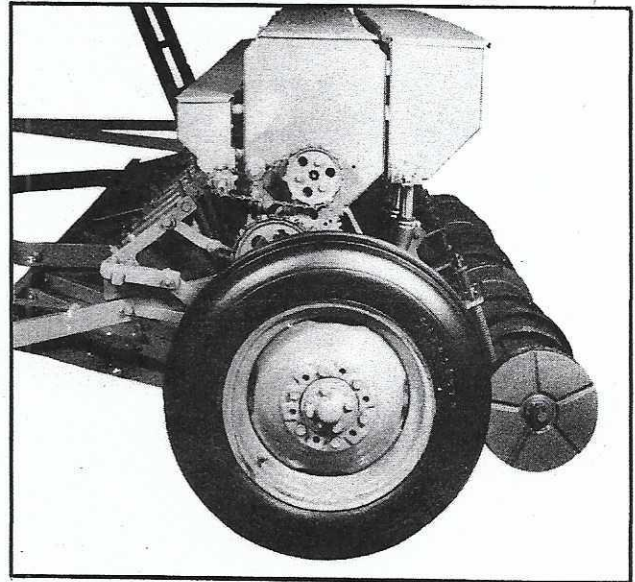

Fig. 11B
6. Figure 11B shows the drive chain and sprocket assembly. The drive sprocket, FS-2, is bolted to the grain agitator shaft spur gear. The driven sprocket, FS-1, is mounted on the square bar at left end of the seeder attachment. Chain and chain tightener complete the drive.